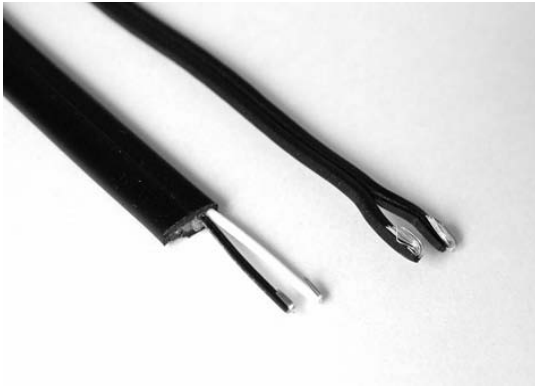

Figure 11-21. Prepared cables
4. Strip the black and white wires of the NXT cable and fold them. The prepared cable should look like the ones in Figure 11-21.